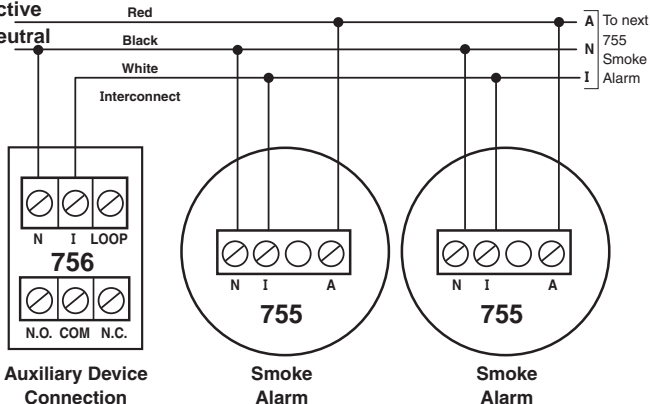

Figure 3: Connection to multiple Series 755 Smoke Alarms
- Figure 3 illustrates the wiring diagram for connection of the 756 Isolation Unit to multiple 755 Series Smoke Alarms.